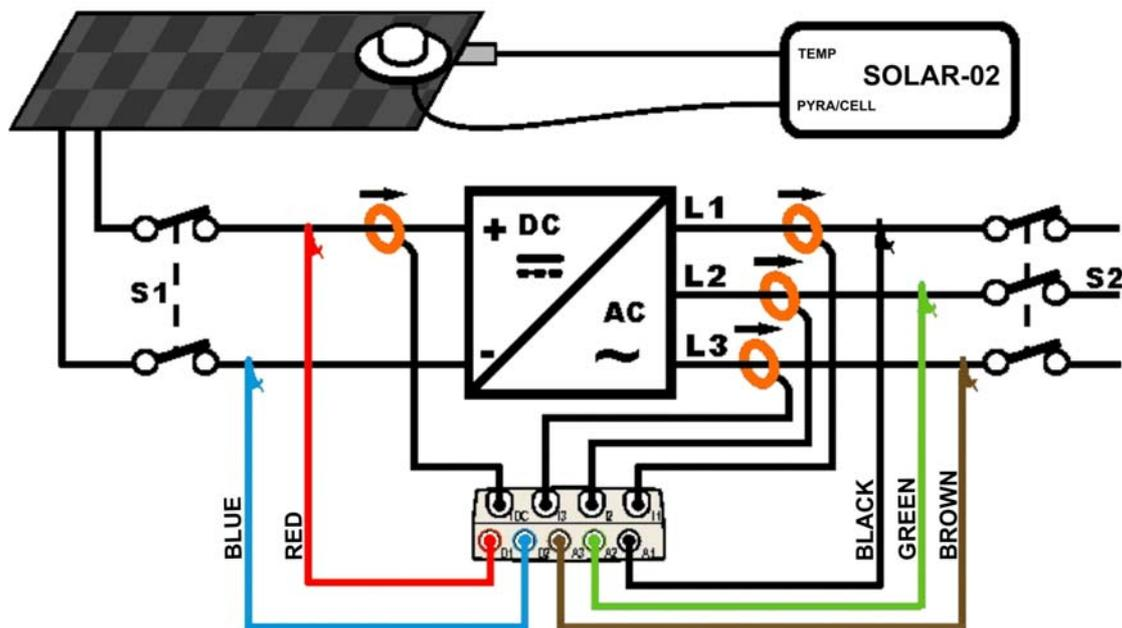

Fig. 251: Connecting the instrument in a PV-3 system with SOLAR-02
3. Connect inputs **D1** and **D2** to the positive and negative string output pole respectively. Connect inputs **A1**, **A2** and **A3** to the phase conductors, respecting the colors as shown in Fig. 251
4. Connect the DC current clamp to the positive string output conductor **by respecting the direction of the arrow** on the clamp itself as indicated in Fig. 251. **Check the status of internal batteries of the DC clamp after the connection to the installation**
5. Connect the AC clamps to the Phase L1, L2, L3 conductors **by respecting the direction of the arrow** on the clamps as indicated in Fig. 251. Connect the output of the clamps to the **I1, I2, I3** input of the instrument respectively